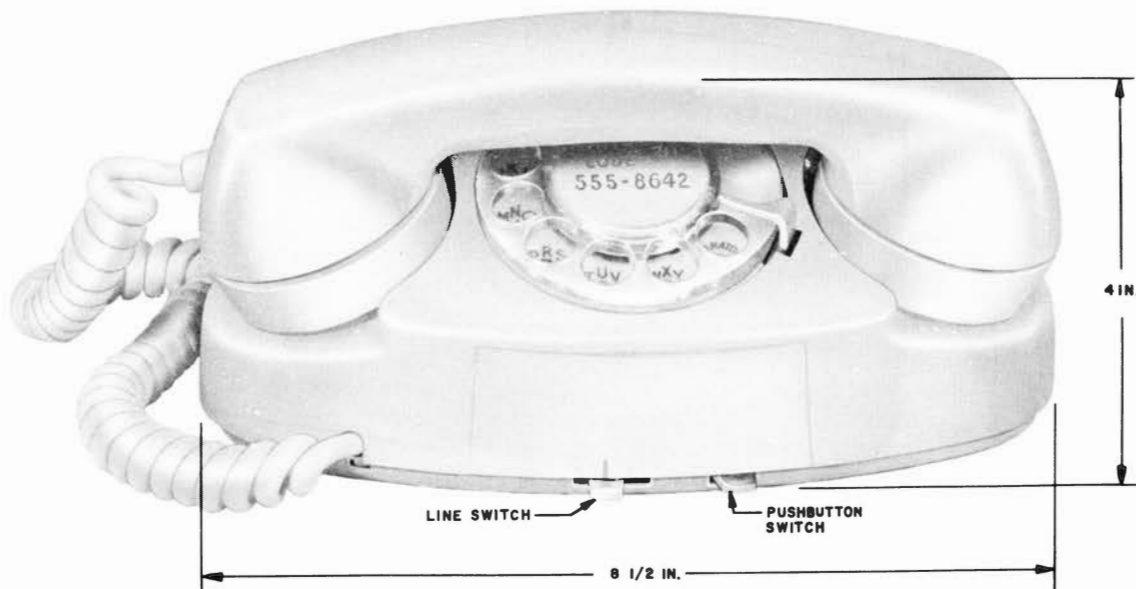

Fig. 3 - 711B Telephone Set
2.05 The 711B telephone set (Fig. 3) is furnished wired for 2-line pickup, exclusion, and signaling service. Wiring changes are made to provide additional services: